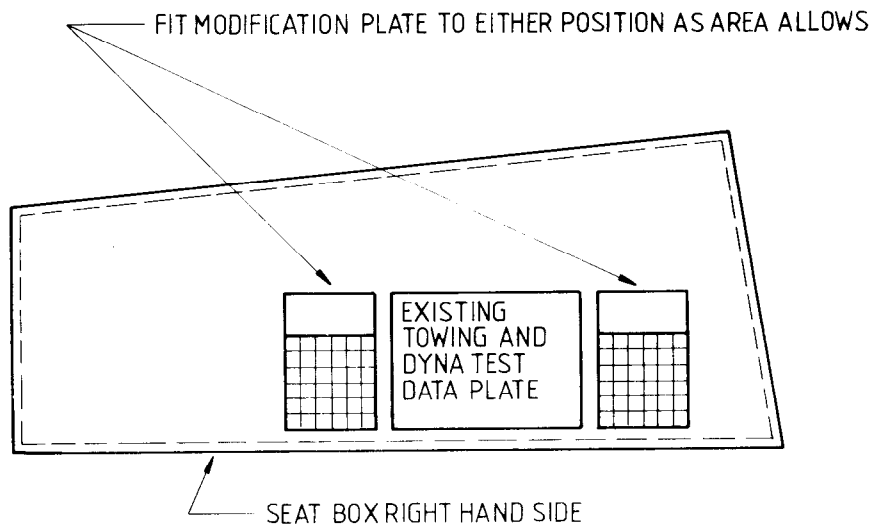

FIG 3 - LOCATION OF MODIFICATION PLATE
- j. The modification record plate, (item 1 from Table 1) can be fitted in either position, adjacent to the existing plate as shown in Fig 3.